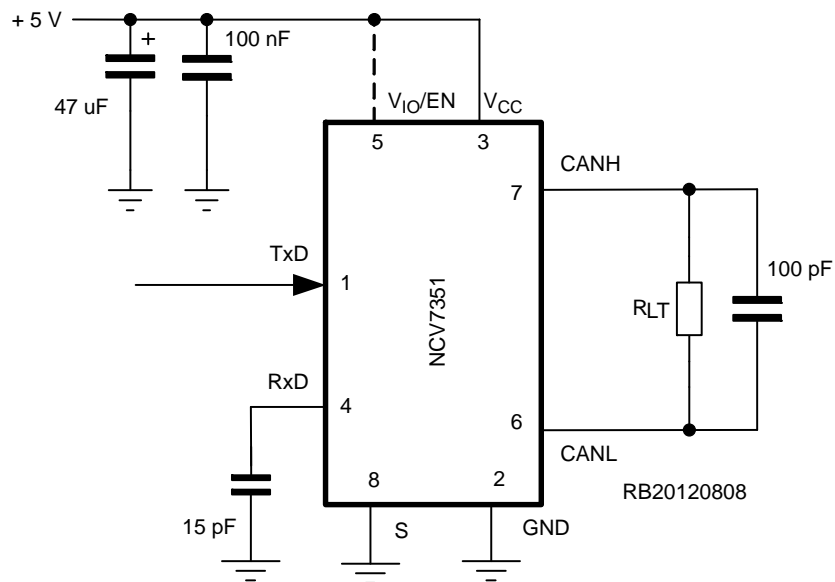

Figure 5. Test Circuit for Timing Characteristics
**TIMING CHARACTERISTICS (see Figures 5, 6 and 7)**
TIMING CHARACTERISTICS (see Figures 5, 6 and 7)